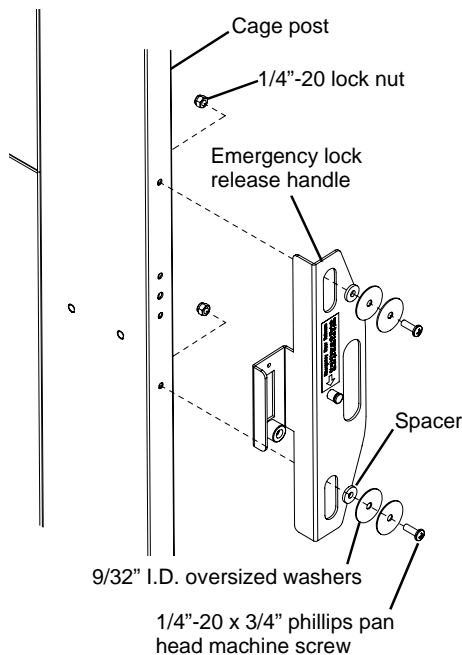

Figure 10
1. Assemble the emergency lock release handle to the cage post. See figure 10.